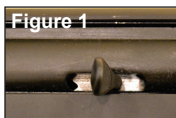
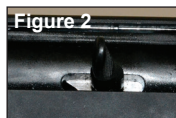

Figure 1
Figure 2
Figure 1: Semi-auto bolt handle shown in proper alignment for removal. Note the spacing of the bolt handle in front of the curved handle slot. Figure 2: Bolt handle the half-way out position.
STEP 7: Push the latch under the trigger group (loading figure 2/ cartridge drop lever). Pull back the bolt handle. Clean the outer surface of the magazine tube with a soft cloth.